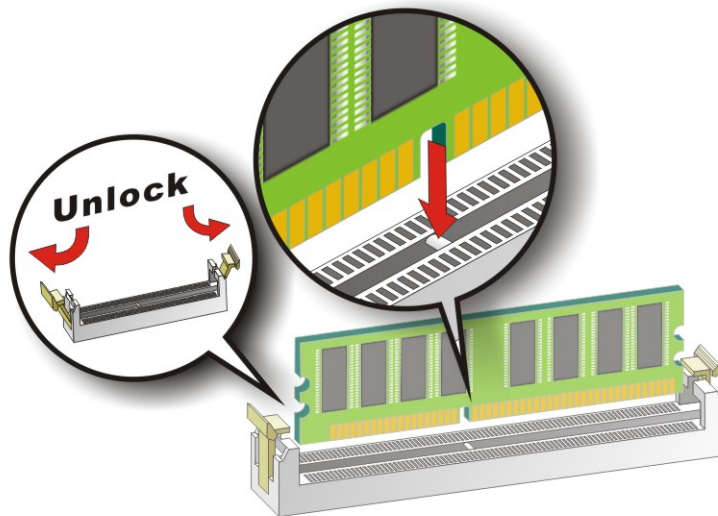

Figure 4-6: DIMM Installation
To install a DIMM, please follow the steps below and refer to **Figure 4-6**.
- Step 1:** Open the DIMM socket handles. Open the two handles outwards as far as they can. See **Figure 4-6**.
- Step 2:** Align the DIMM with the socket. Align the DIMM so the notch on the memory lines up with the notch on the memory socket. See **Figure 4-6**.
Step 3: Insert the DIMM. Once aligned, press down until the DIMM is properly seated. Clip the two handles into place. See **Figure 4-6**.